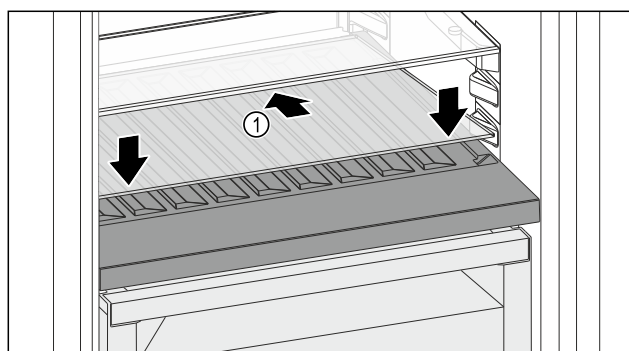

Fig. 111
- Place the glass shelf Fig. 111 (1) at an angle, sloping it downwards and backwards.
- Lower the glass shelf Fig. 111 (1) at the front.